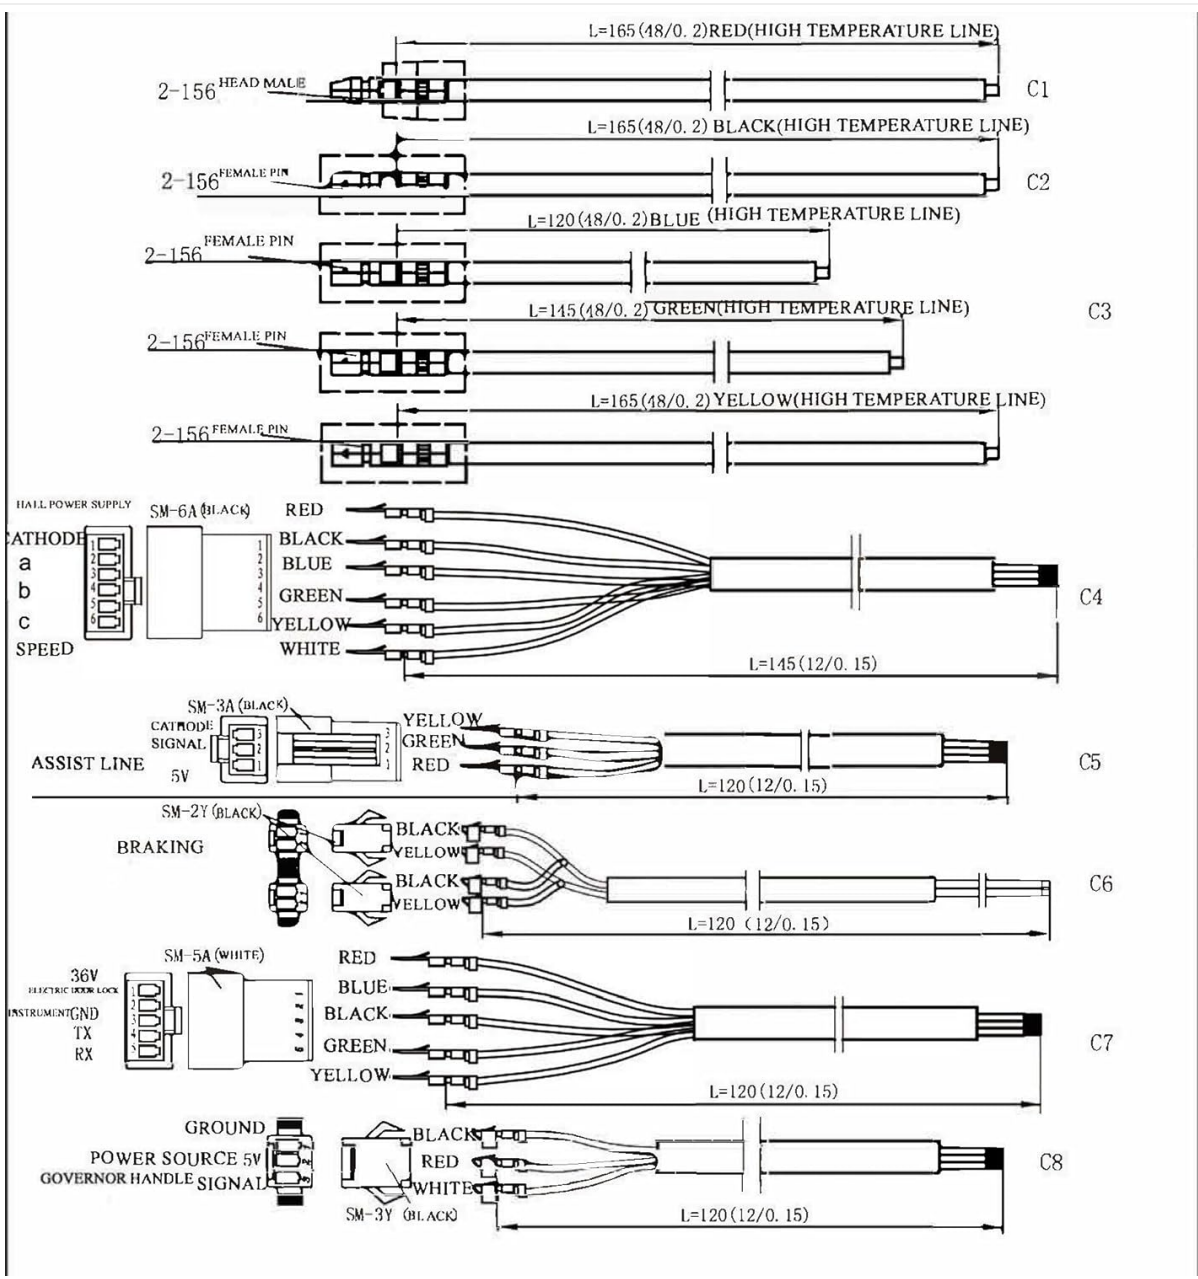

Figure 3: Comprehensive wiring diagram for the controller connections.
1. **Motor Connection:** Connect the three thick phase wires (typically Green, Blue, Yellow) from the controller to the corresponding motor phase wires. Connect the smaller Hall sensor wires (Red, Black, Green, Blue, Yellow, White) to the motor's Hall sensor connector (C4 in Figure 3).
3. **LCD Display (Optional):** If using an NB POWER LCD display, connect it to the designated connector (C7 in Figure 3). This connection is required to activate the regenerative function.
4. **Throttle Connection:** Connect the throttle unit to the throttle connector (C8 in Figure 3). This typically has Red (5V), Black (Ground), and White (Signal) wires.
5. **PAS (Pedal Assist System) Connection:** Connect the PAS sensor to its dedicated connector (C5 in Figure 3). This usually includes Red (5V), Yellow (Signal), and Green (Ground) wires.
6. **Brake Levers Connection:** Connect the brake levers to the brake input connectors (C6 in Figure 3). These are typically LOW-LEVEL brake inputs.